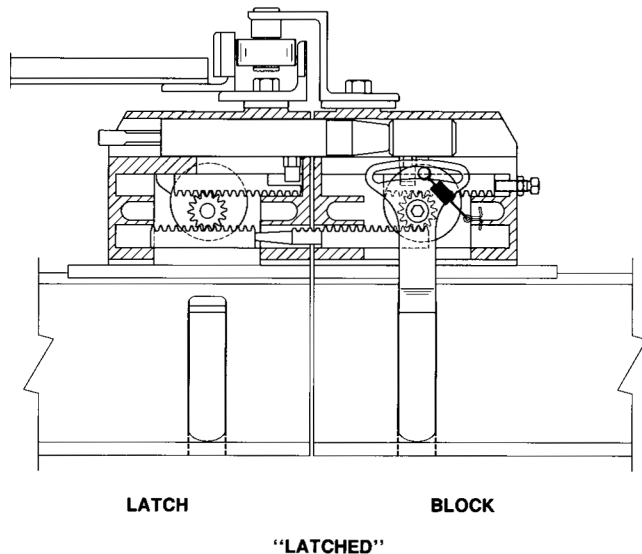

FIGURE 56
3. Refer to Figure 56 showing the mechanisms in "latched" position. Note that the grooved pin in the cam is in the upper position and slightly past center in the direction of rotation. The rotation of the cam is slightly over 180 degrees.
4. With the parts in "latched" position, adjust the set screw in the block so that it contacts the upper rack at the extreme end of travel as shown in Figure 56.